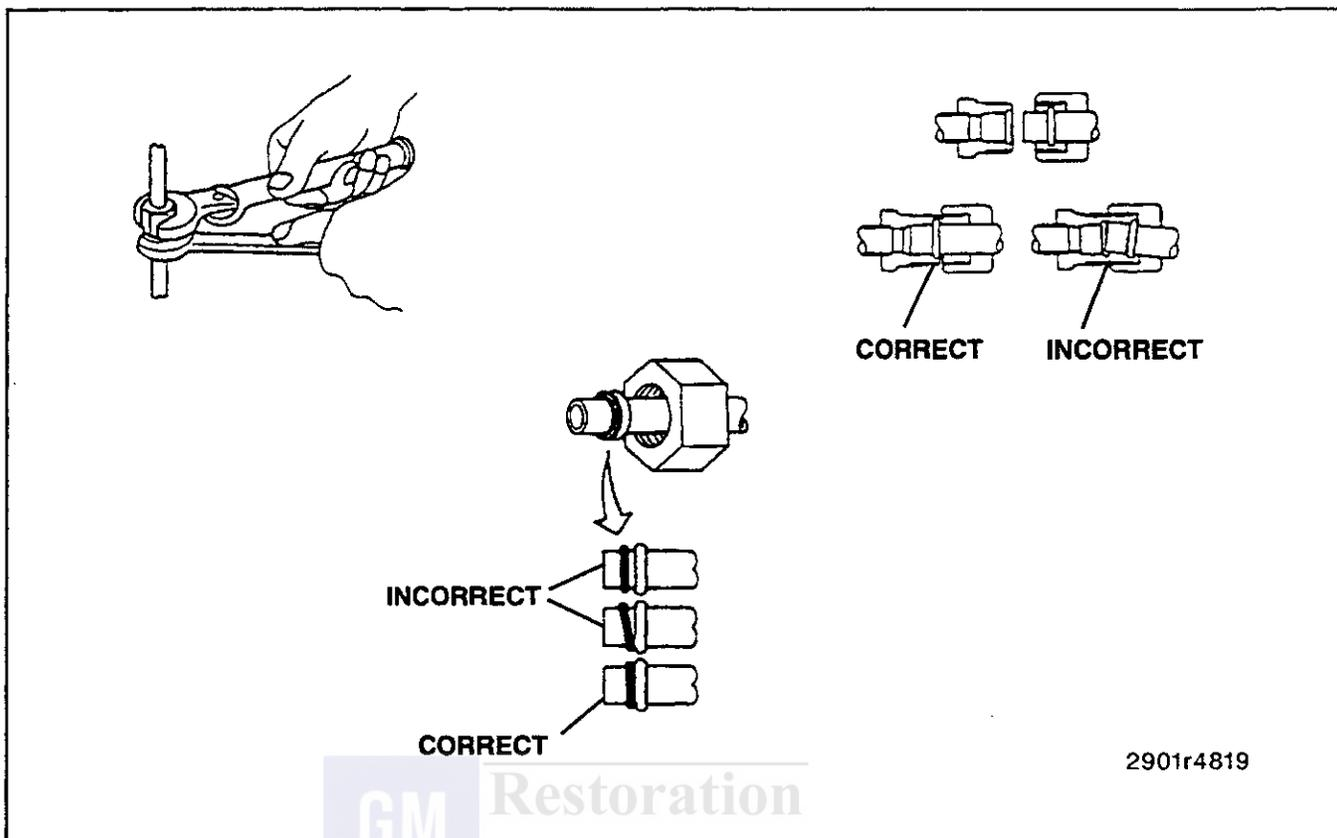

Figure 12—Refrigerant Lines and Fittings
- It is important to use the proper wrenches when making connections on O-ring seal fittings. The use of improper wrenches may damage the connection. The opposing fitting should always be backed up with a wrench to prevent distortion of connecting lines or components. When connecting the flexible hose connections, it is important that the swaged fitting and the flare nut, as well as the coupling to which it is attached, be held at the same time using three different wrenches to prevent turning the fitting and damaging the seat (figure 12).